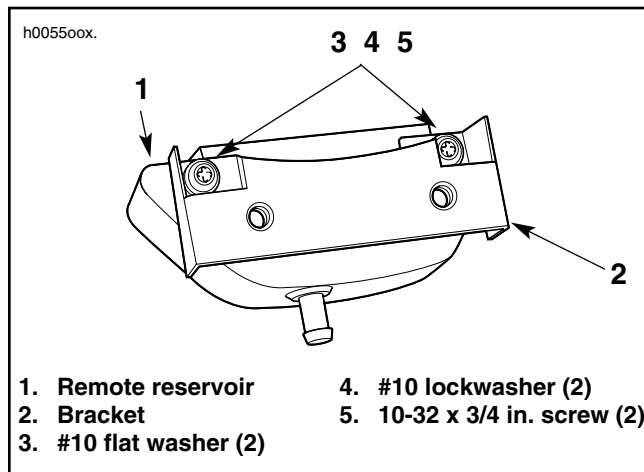

Figure 6. Remote Reservoir and Bracket
1. See Figure 6. Attach reservoir to reservoir bracket as shown.